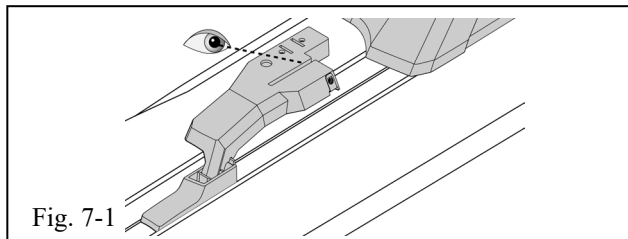

Fig. 7-1
- (a) Make note of the slot on the front stanchions. (Fig. 7-1).